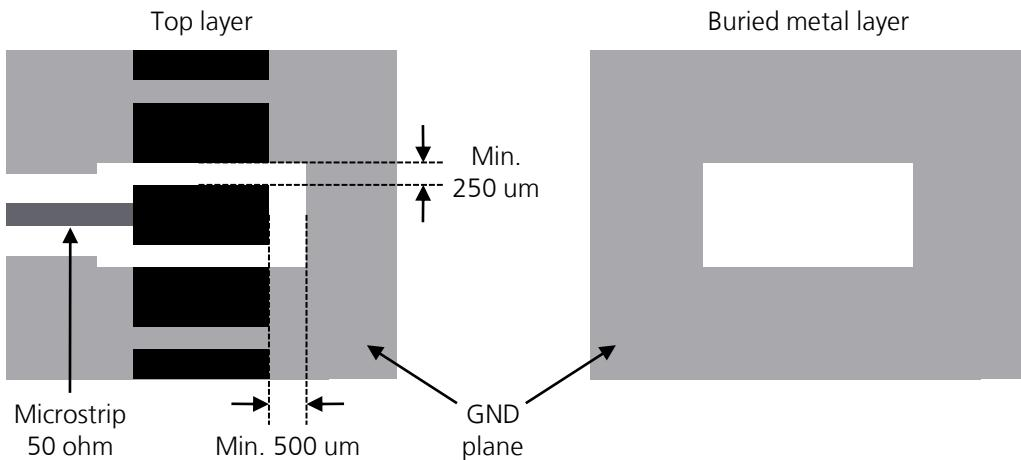

Figure 55: GND keep-out area on top layer around ANT and ANT\_DIV pads and on buried layer below ANT and ANT\_DIV pads
- Increase GND keep-out (i.e. clearance) for **ANT** and **ANT\_DIV** pads to at least 250  $\mu\text{m}$  up to adjacent pads metal definition and up to 500  $\mu\text{m}$  on the area below the module, as described in Figure 55
- Add GND keep-out (i.e. clearance) on buried metal layers below **ANT** and **ANT\_DIV** pads and below any other pad of component present on the RF line, if top-layer to buried layer dielectric thickness is below 200  $\mu\text{m}$ , to reduce parasitic capacitance to ground (see Figure 55 for the description of the GND keep-out area below **ANT** and **ANT\_DIV** pads)